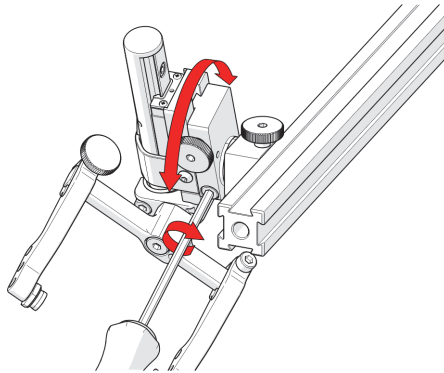

Figure 2-64 Rotate to position
3. Rotate the main body of the probe holder until it is at the desired angle (see Figure 2-64 on page 100).
4. Tighten the longitudinal adjustment screw (see Figure 2-64 on page 100).